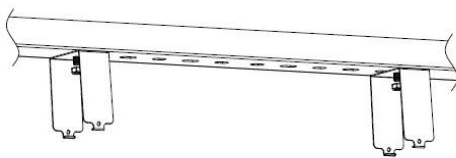

Figure 3
1. Mount the brackets (PLT-13672) on the rail or ceiling (Figure 3).